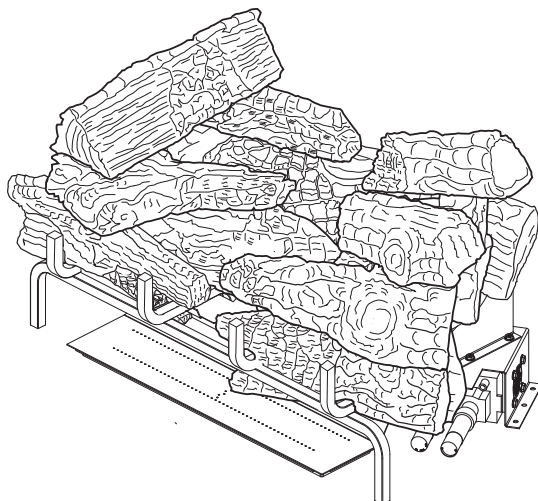

Figure 32 - Final Assembly
12. Final Assembly is shown in **Figure 32, Page 20**.